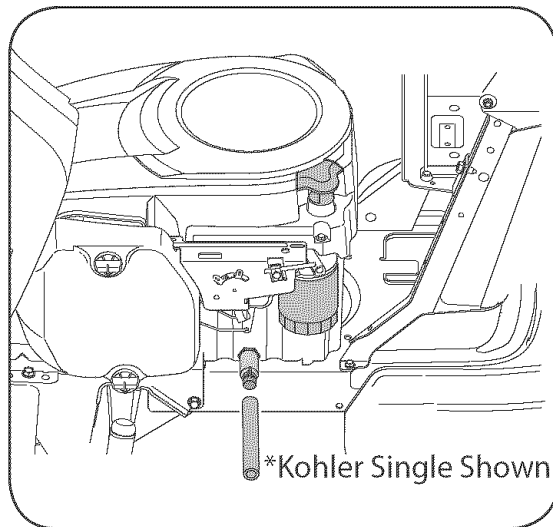

Figure 16
1. Pop open the protective cap on the end of the oil drain valve to expose the drain port. See Figure 16.